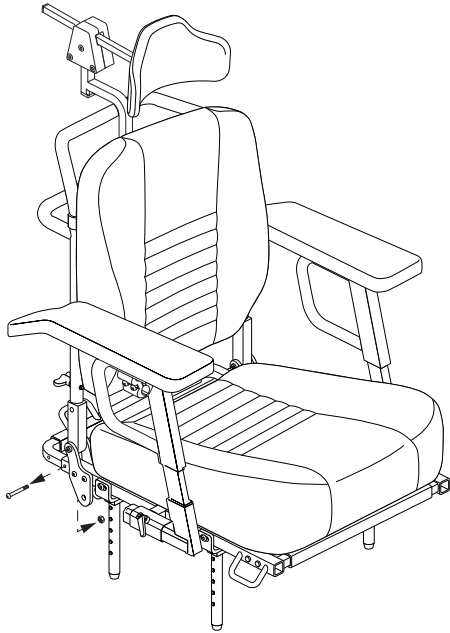

Figure 12. Hardware Removal
- 5/16-in. x 2-in. button head screw (1)
- Black nylon spacer (2)
- 5/16-in. Nylock jam nut (1)
1. Remove the button head screw and Nylock jam nut from the rearmost part of the pivot bracket at the base of the seatback cane. See figure 12.